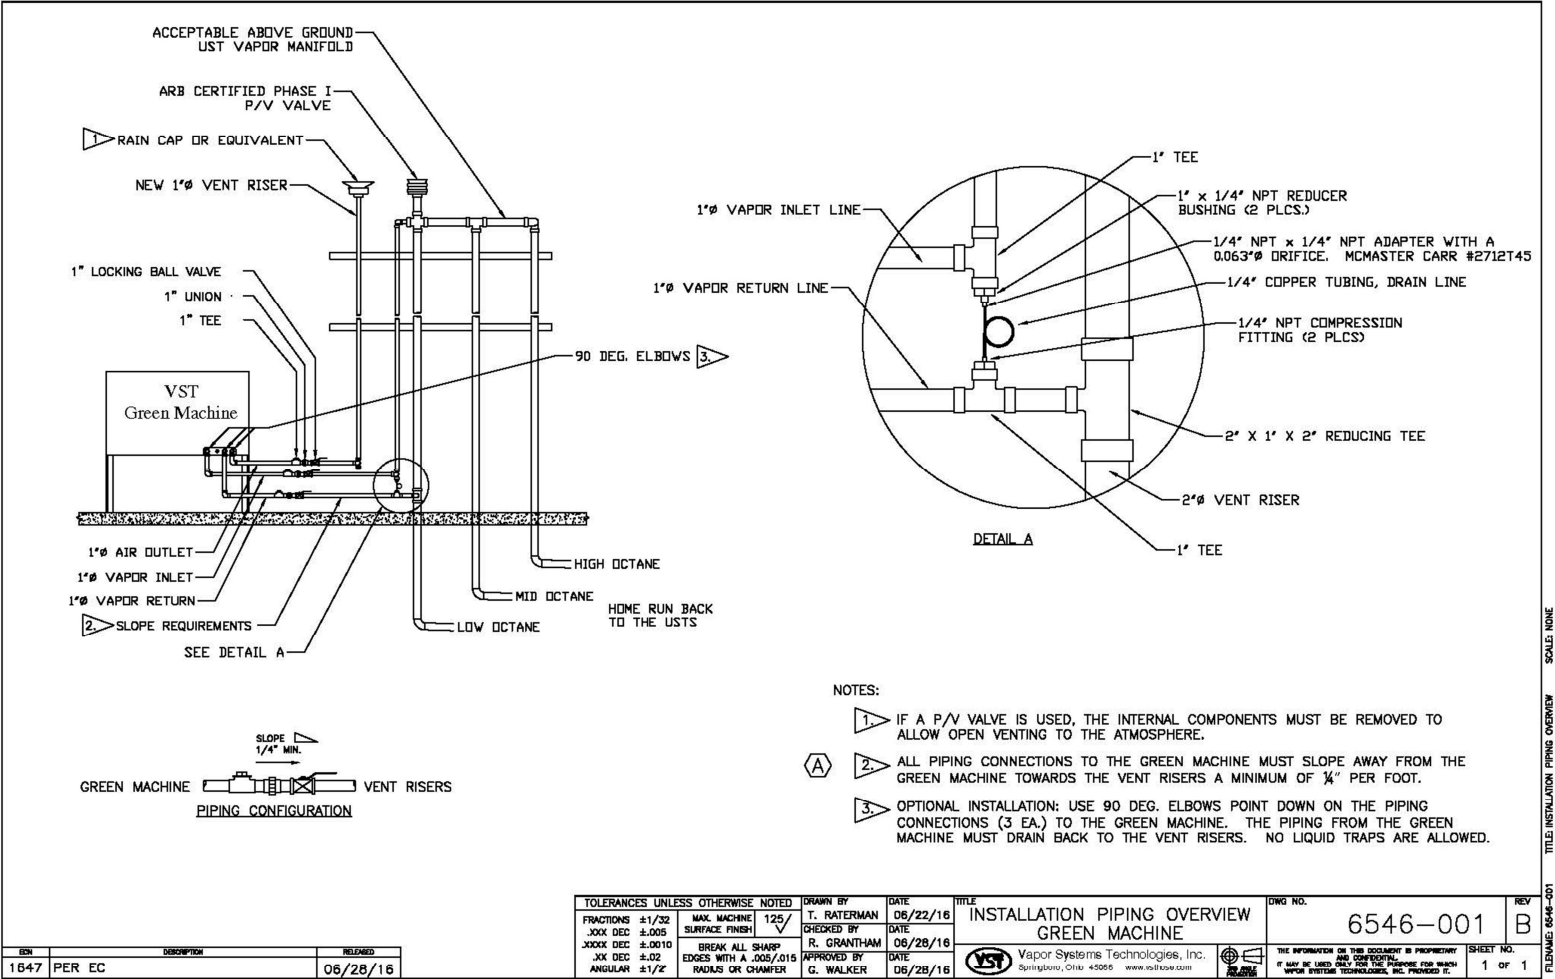

Figure 6-2: Vapor Piping Overview
3.	Close the three (3) ball valves between the GREEN MACHINE and the vent risers. Reference Figure 6-2.
4.	Remove the caps from the 3 tees. Reference Figure 6-2.